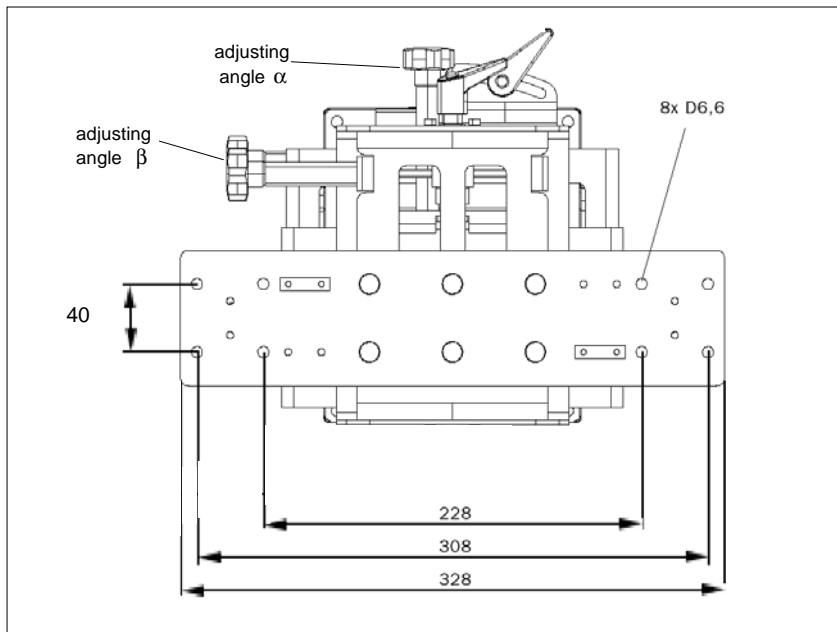

Fig. 4-1: Dimensional drawing for Mounting Set with LMS 200
The Mounting Set is easy to attach to an 8 mm item aluminium profile as it is designed for this profile. The dimensional drawing in *Fig. 4-1* is to be complied with for mounting using other equipment.
- Screws for attaching the Mounting Set to the frame or other equipment. The Mounting Set has 8xD6.6 drilled holes, see *Fig. 4-1*.